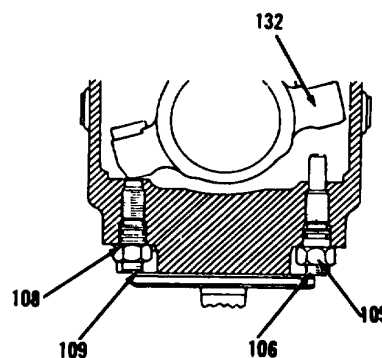

Figure 10-54.
22. Move swashplate (132) until it makes contact with bolt (109, Figure 10-54).
23. Adjust bolt (109) for maximum swashplate (132) angle. Use depth gage and measure the distance from the top of gage bar to the angle on the stop angle bar. Move the depth gage to the hole on the same side of the gage bar, over the same angle of the stop angle bar. Measure the distance from the top of the gage bar to the angle on the stop angle bar. Adjust bolt (109) until the measurements made from the top of the gage bar to the angle on the stop angle bar is the same.